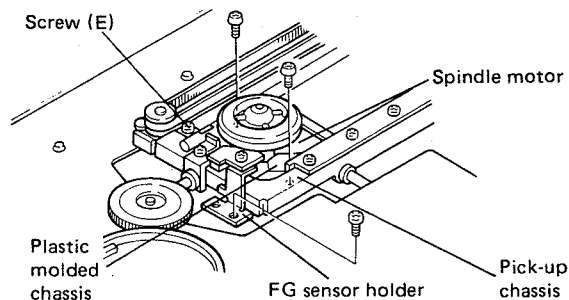

Fig. 19
9. Loosen the screw (E) which retains the slide shaft clamp from the center. (Fig. 19)